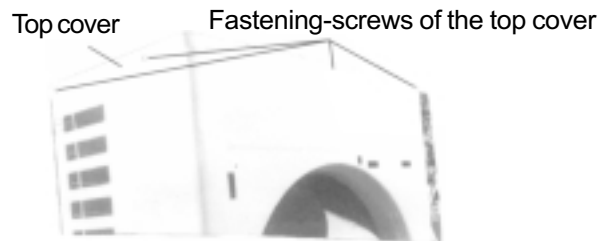

Figure 46
- ⑩ Disassemble the top cover.
- Unscrew the fastening-screws of top cover (4), and remove the top cover as shown in figure 46.